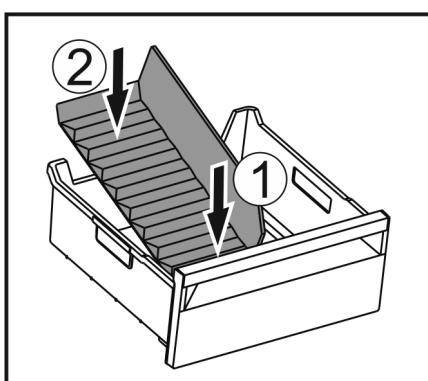

Fig. 156
- ▶ Insert the front part of the ice compartment divider. *Fig. 156 (1)*
- ▶ Lower the rear part of the ice compartment divider to the drawer bottom. *Fig. 156 (2)*